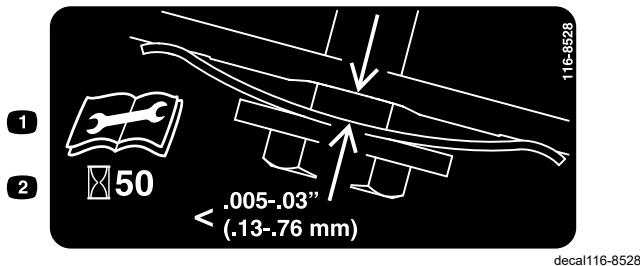

Figure 33
3. Hold a feeler gauge set between 0.005 and 0.03 inches (0.13 and 0.76 mm) against the wall and slide it down behind the belt tension spring; refer to Figure 33.